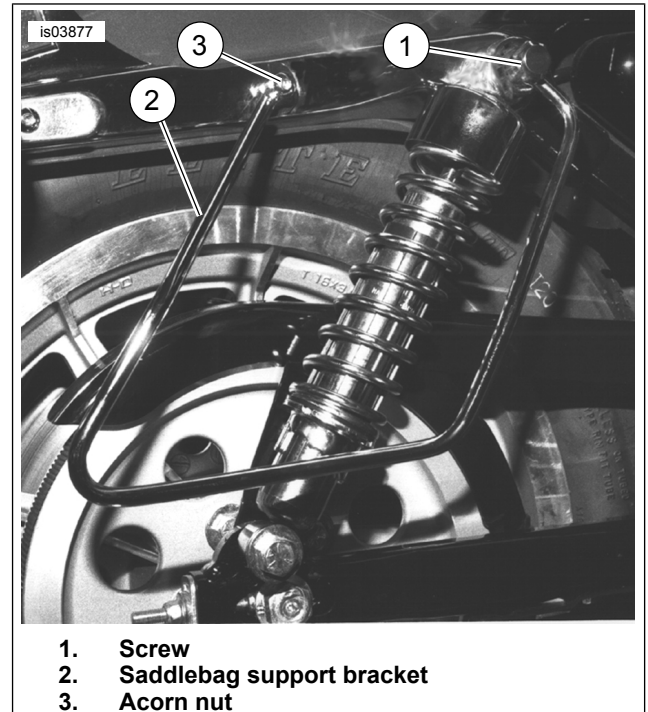

Figure 1. Soft Saddlebag Support Bracket Installation
- See Figure 1. Remove the frontmost O. E. button head bolt and nut (at 3) from the fender support cover. **On 2000-2003 models**, discard the bolt, but retain the nut for later installation. **On 2004 and later models EXCEPT XL1200N**, discard the bolt and nut. **On XL1200N models**, discard the bolt, but retain the nut for later installation.